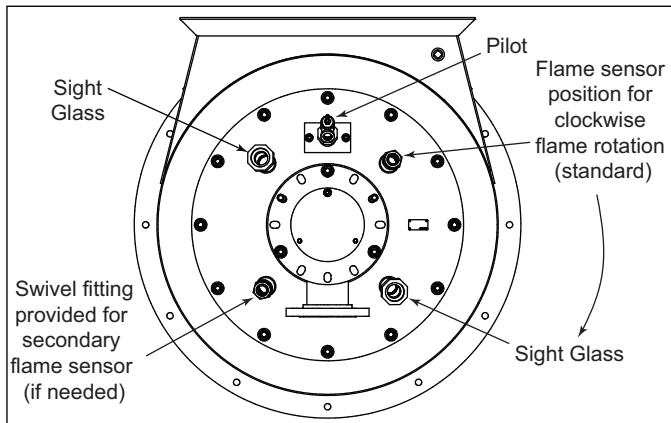

Figure 3.4. Flame Sensor Mounting & Sight Glass Locations
- For gas, light oil, or heavy oil with air atomization, locate a UV scanner in one of the two mounting ports near the pilot to prove pilot and main flames. The two remaining ports can house either a UV or sight glass depending on customer preference (see Figure 3.4).